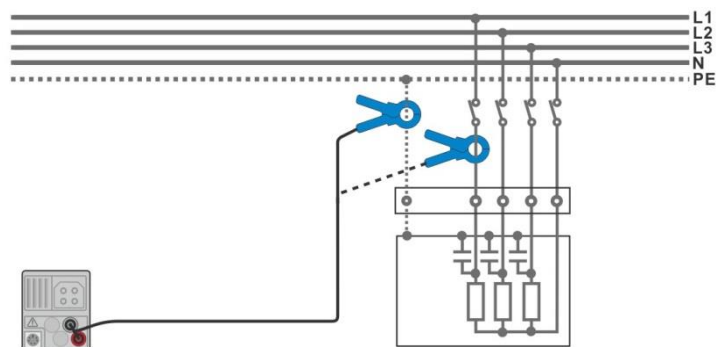

Figure 7.83: PE leakage and load current measurements
- › Connect the clamp to the object under test, see **Figure 7.83**.